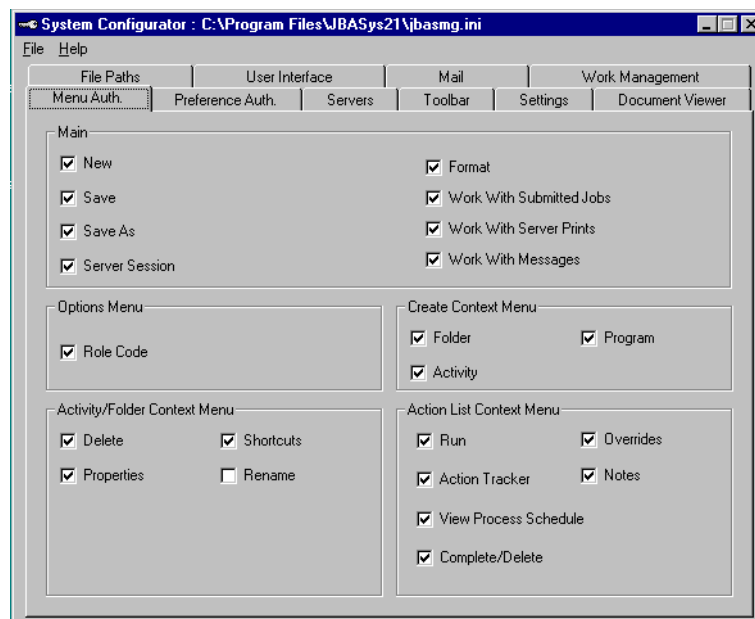

Figure 51. System Configuration tool - Menu Authorization
6. Click the **Menu** tab. Select all options in the Main, Create Context, and Activity/Folder Context as shown in Figure 51.